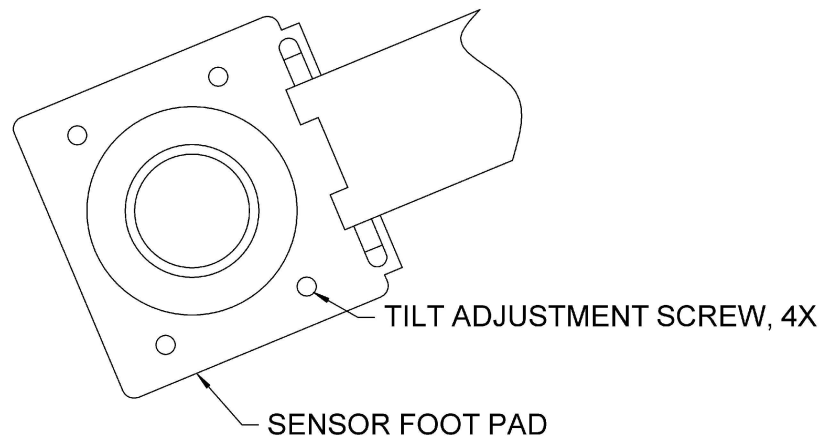

FIGURE 3.2
3.0.5 COCKED CAP DETECTION: The gimbal mount of the sense probe allows the Sensor Foot Pad to tilt as much as 7° off of horizontal to accommodate eccentric container tops. This tilt of the Sensor Foot Pad may be great enough to accommodate the tilt of a cocked cap. The amount of tilt allowed can be reduced by adjusting the Tilt Limit Screws in the sensor housing (Figure 3.2).